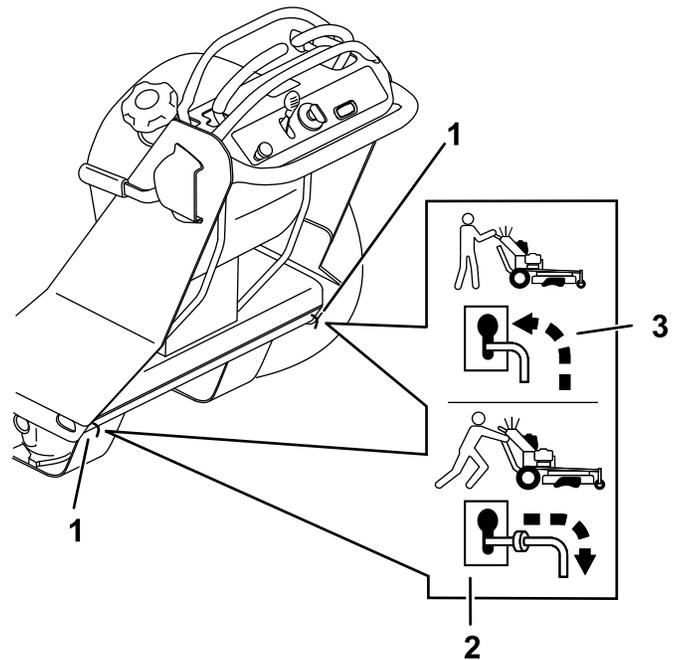

Figure 67
4. Move both bypass levers rearward through the key hole and down to lock them in place (Figure 67).
7. Shut off the engine and move the bypass levers forward through the keyhole and down to lock them in place (Figure 67).